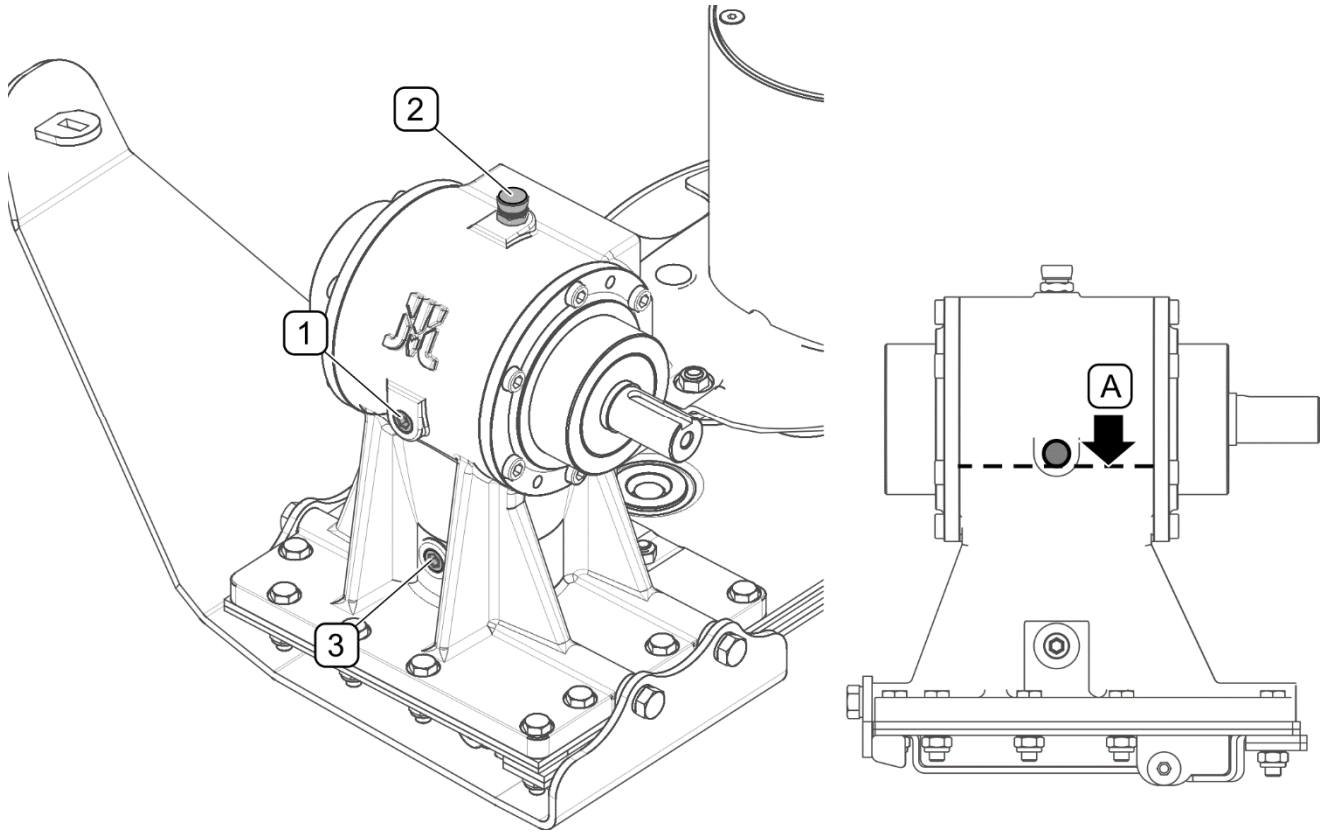

FIGURE 5.4 Checking and change of oil in intersecting axis gear
- unscrew inspection plug (1) (FIGURE 5.4),
- oil level should reach the lower edge of the plug opening (1),
- unscrew inspection plug (1) and drain plug (3) (FIGURE 5.4),
- drain oil into the previously prepared vessel and tighten drain plug (3),
- pour oil through plug (2) to lower edge of inspection filler plug opening.
- screw in filler plug (2) and inspection plug (1).